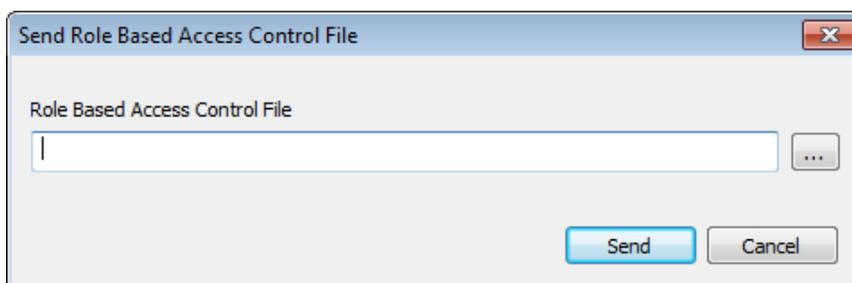

Figure 55: Send Role Based Access Control File
- On the PCCU main menu, select **Operate > Security > Role Based Access Control > Send Security File** to display the Send Role Based Access Control File dialog box (Figure 55).